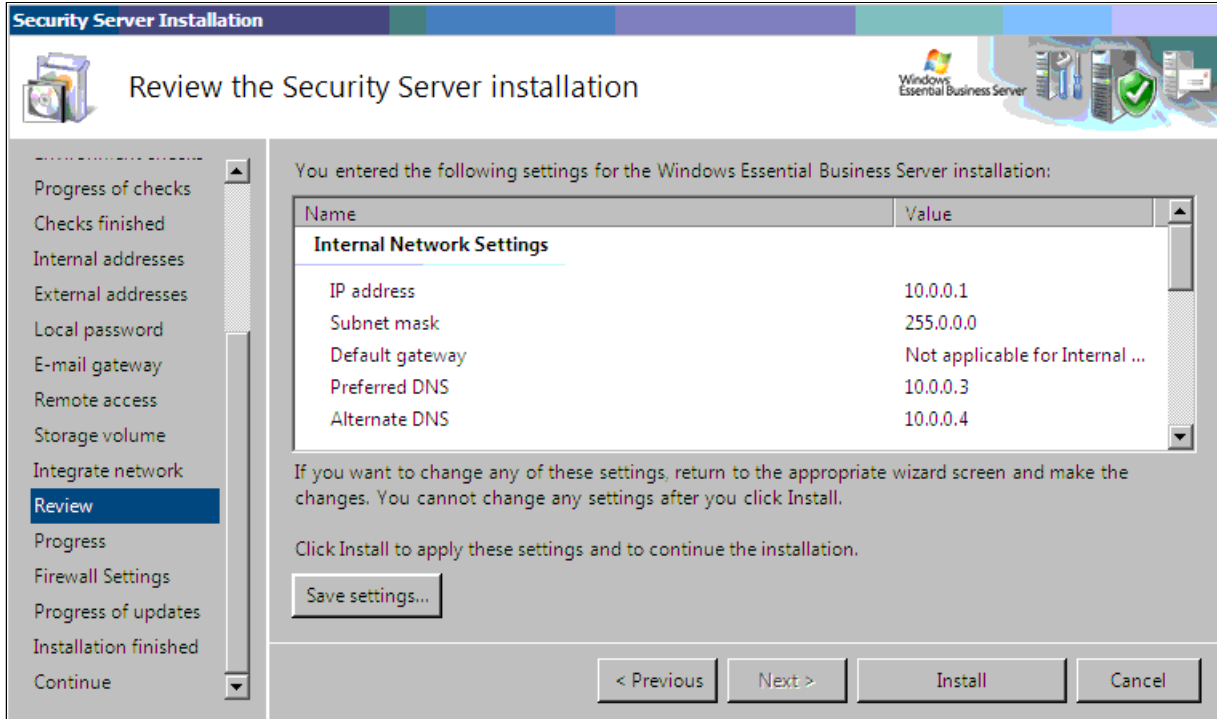

Figure 4-35 Review the Security Server installation
25. On the “Review the Security Server installation” panel (Figure 4-35), review your settings. You also have the option to save these settings. You can change the settings that you made since you joined the Active Directory domain by clicking **Previous** to return to previous pages. When you finish reviewing the settings, click **Install**. The remainder of the installation can proceed unattended.